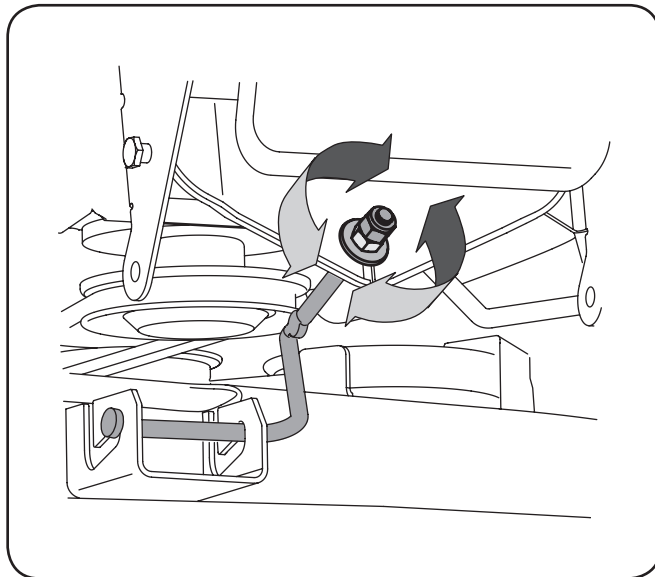

Figure 6-4
3. Locate the jam nut and lock nut on the front side of the stabilizer bracket. See Fig. 6-4 After loosening the jam nut: